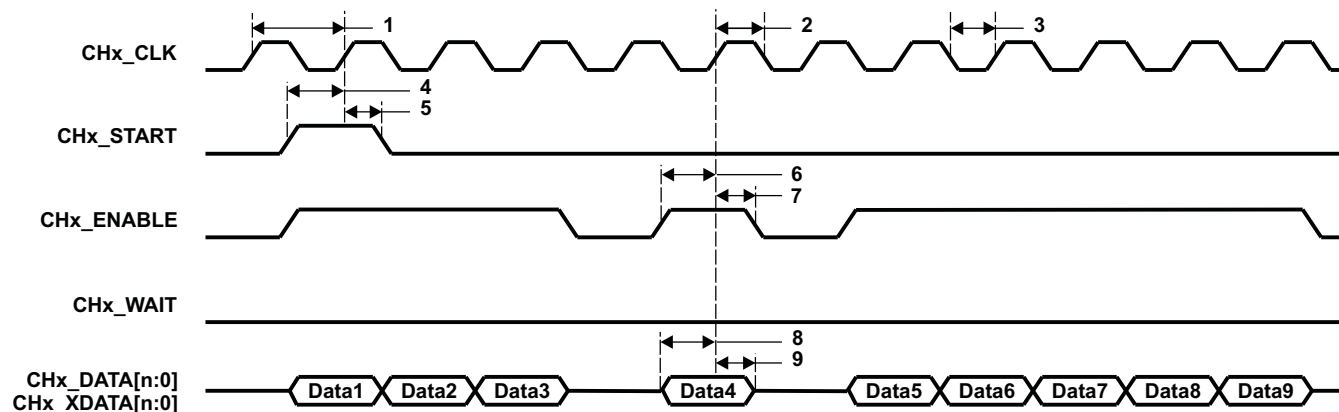
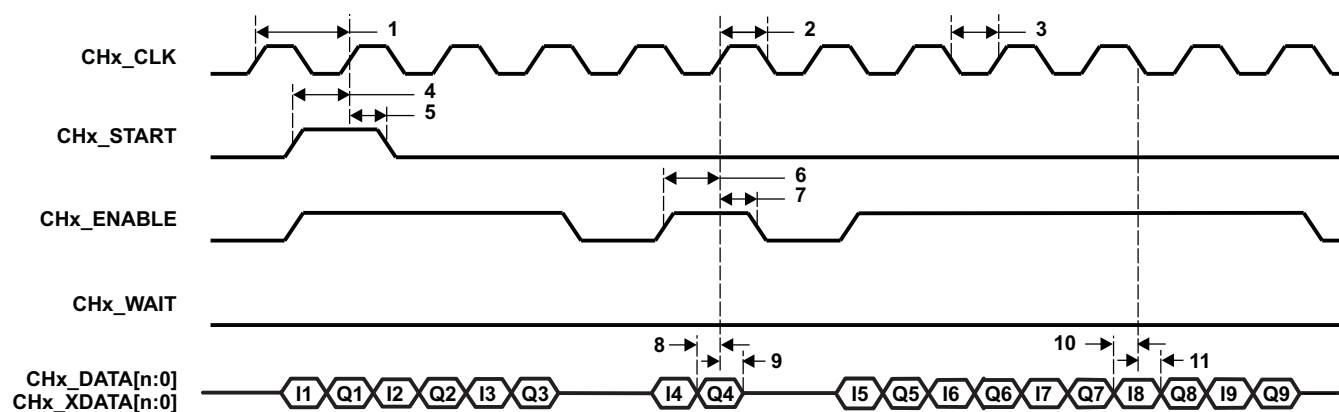
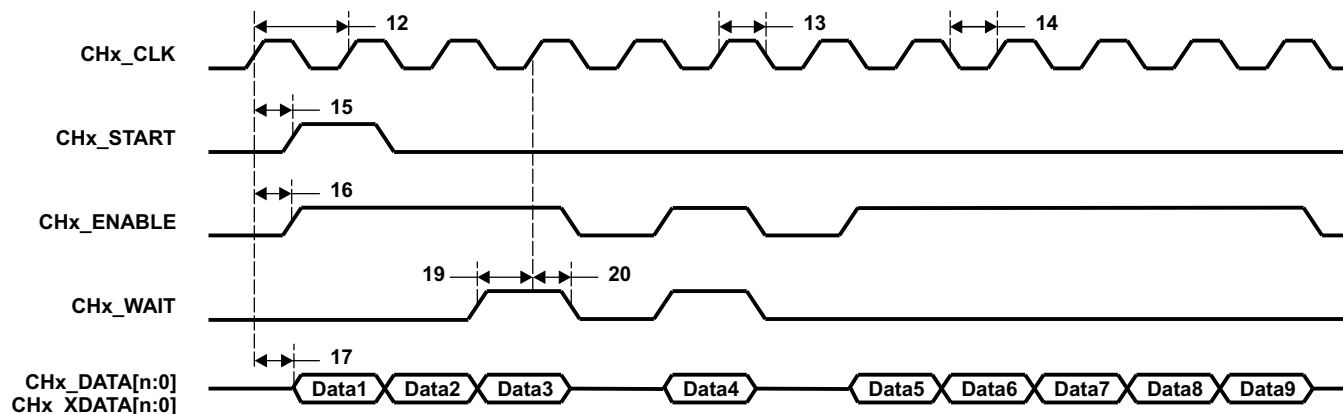
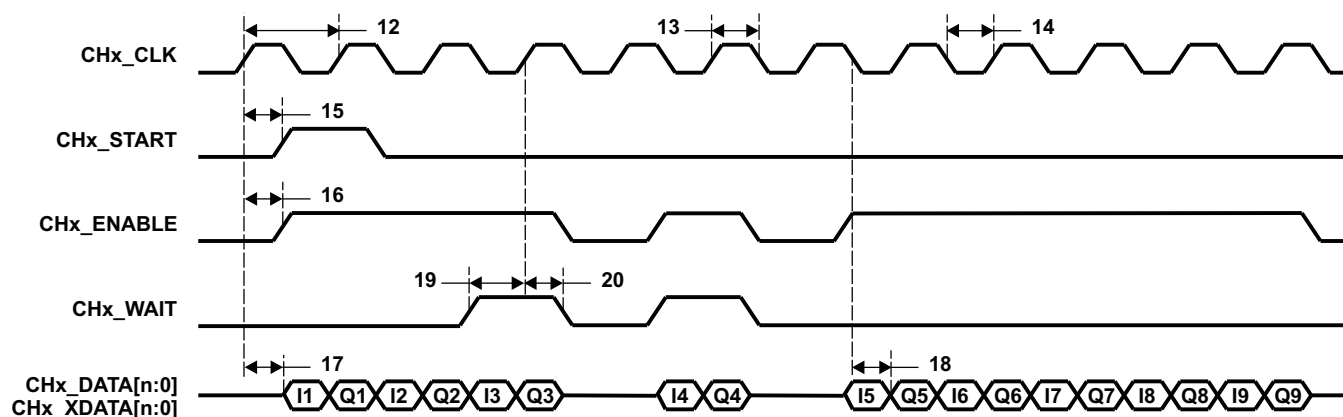

Figure 5-71. uPP Single Data Rate (SDR) Receive Timing
Figure 5-72. uPP Double Data Rate (DDR) Receive Timing
Figure 5-73. uPP Single Data Rate (SDR) Transmit Timing
Figure 5-74. uPP Double Data Rate (DDR) Transmit Timing
**Table 5-116. Timing Requirements for uPP (see Figure 5-71, Figure 5-72, Figure 5-73, Figure 5-74)**